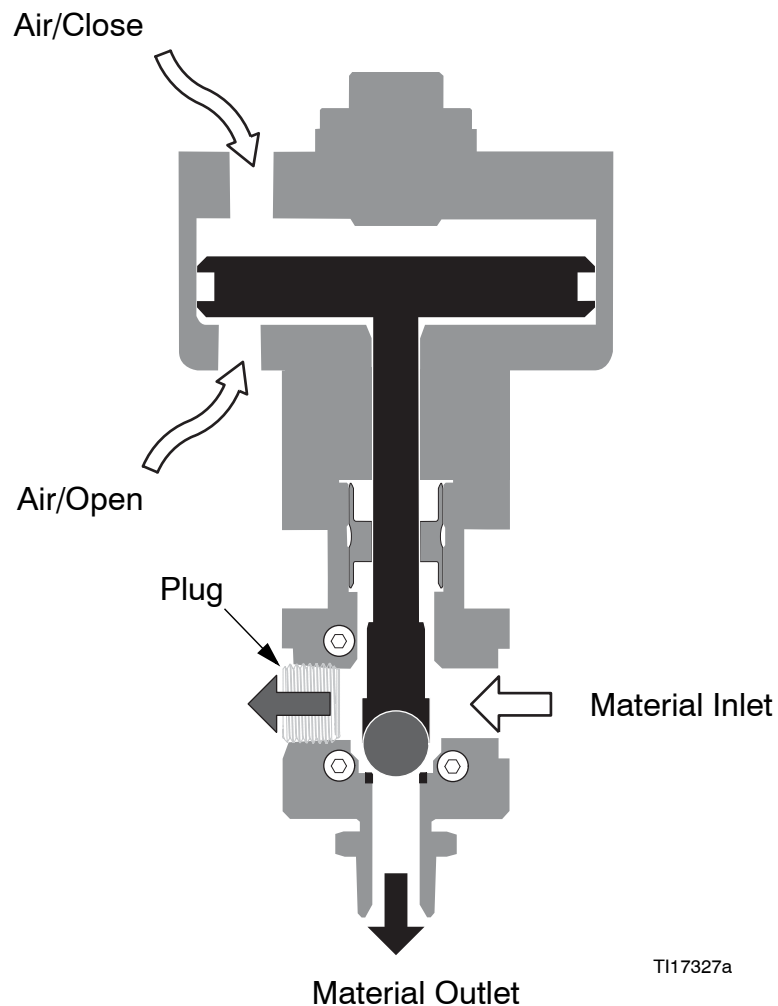

FIG. 2: DV Series Theory of Operation
- b. Connect air line to air-to-open air inlet in air section (B). See FIG. 2, page 7.
- c. Connect air line to air-to-close air inlet in air section (B). See FIG. 2, page 7.
5. Connect fluid line to npt fluid inlet (F) in valve body. If desired, remove plug from other inlet (G) and connect fluid return line for circulation systems. See **Technical Data**, page 23, for maximum operating fluid pressure.